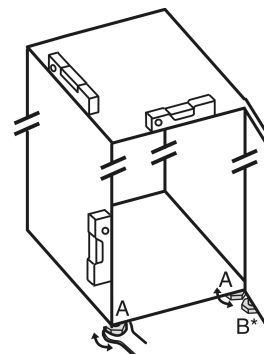

Fig. 24
- ▶ Unscrew the adjustable feet Fig. 24 (A) using the enclosed open-end spanner and a spirit level until the appliance is firmly aligned and level.
► Unscrew the adjustable foot *Fig. 24 (B)* on the swap bearing block with the enclosed open-end spanner until it rests on the floor.
► Turn the adjustable foot *Fig. 24 (B)* 90° further.